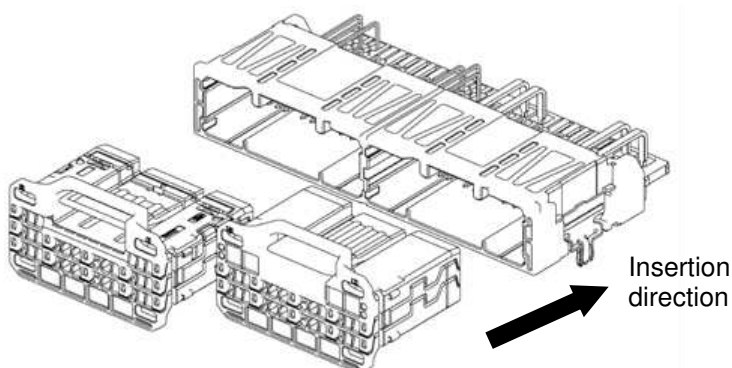

Fig.31
- (1) Check contact insertion condition, wire taping position and no space between layers. In case of finding the space, the layers should be returned to correct position (6-4) .
- (2) Check contact deformation, discoloring, cuts, stain and housing crack, missing, discoloring.
- (3) Specified Female housing should be inserted straightly (Fig. 31).